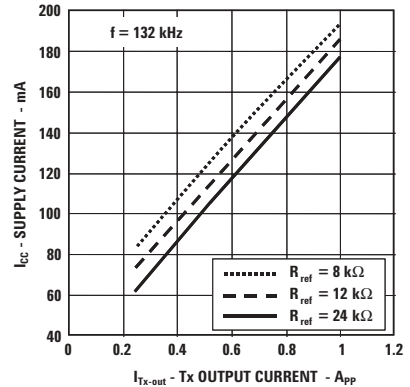

Figure 3. Supply current vs. Tx output current.
4. See Figure 3 for the plot of supply current versus Tx output current.